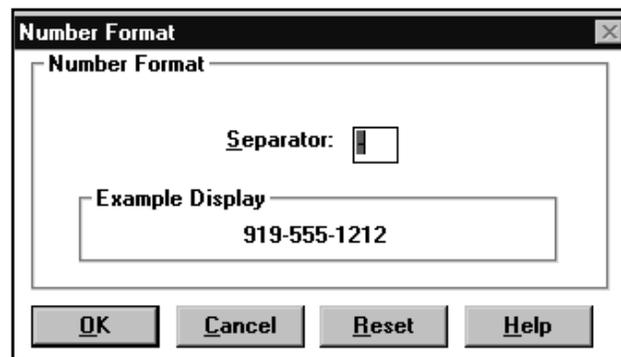

FIGURE 68. Example of Number Format dialog box
1. In the configuration window, select Number Format. (See Figure 68.)